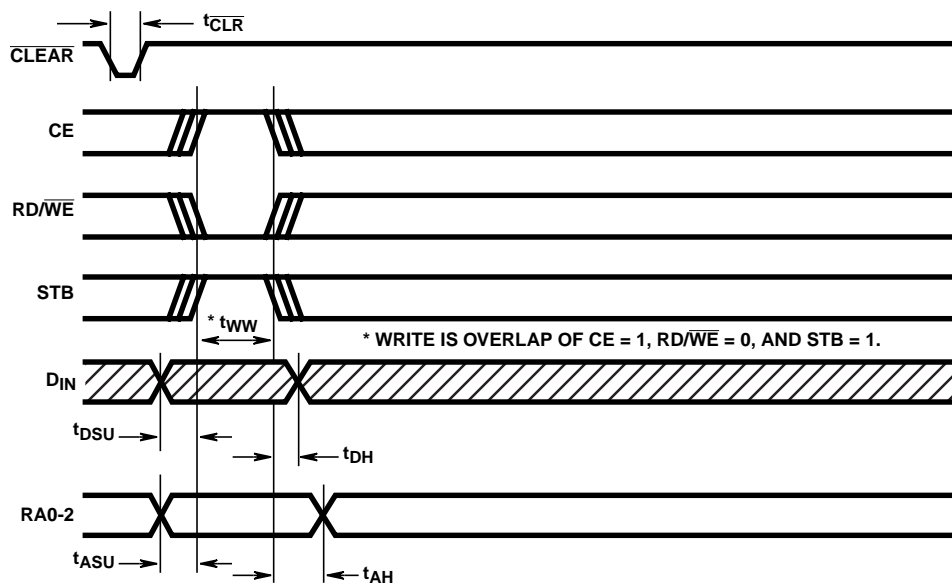

FIGURE 8. WRITE TIMING DIAGRAM
**Dynamic Electrical Specifications** At  $T_A = -40$  to  $+85^\circ\text{C}$ ,  $V_{DD} \pm 5\%$ ,  $t_R, t_F = 20\text{ns}$ ,  $V_{IH} = 0.7V_{DD}$ ,  $V_{IL} = 0.3V_{DD}$ ,  $C_L = 100\text{pF}$  (See Figure 8)